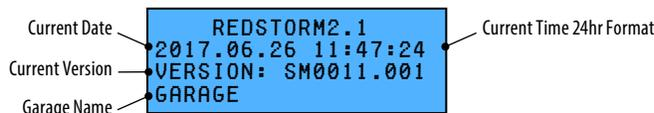

Figure 5-1. RedStorm Home Screen
- The SuperMaster LCD Screen should be displaying the home screen. (refer to Figure 5-1)